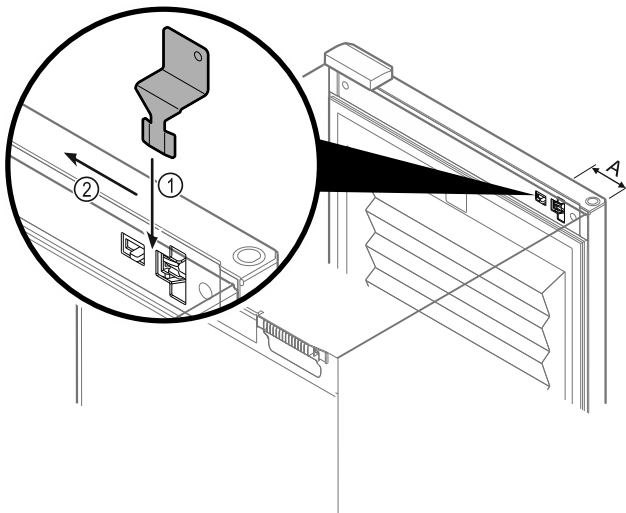

Fig. 133
- ▶ Position the emergency unlocking key in the location shown Fig. 133 (A) \approx 100mm.
- ▶ Insert the emergency unlocking key from above between the door and the appliance body as far as it will go Fig. 133 (1).
- ▶ Drag the emergency unlocking key towards the hinge side Fig. 133 (2).